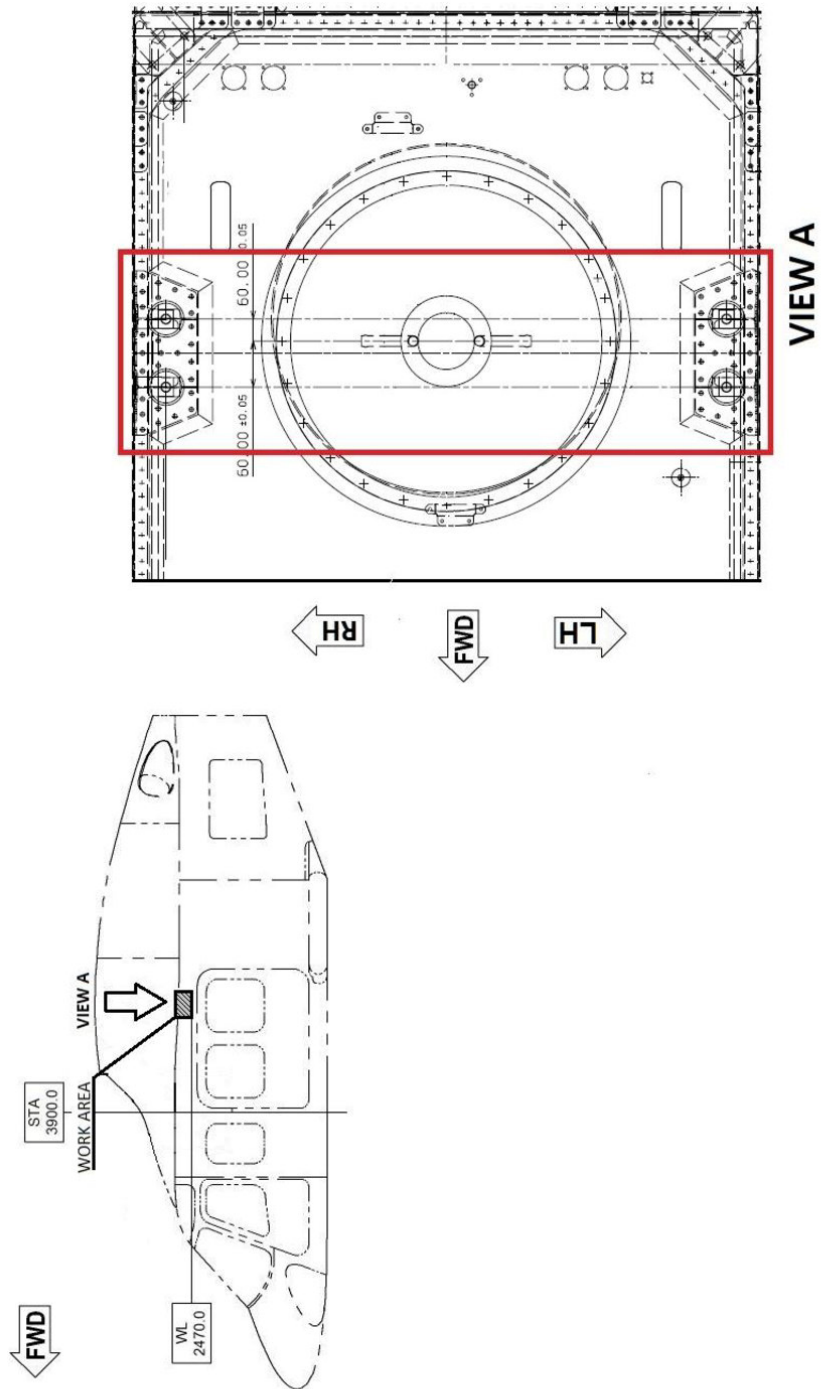

Figure 3 – External Work Area
4. Get access to the external work area shown in (Fig. 3).
- 3. Figure 3 – External Work Area